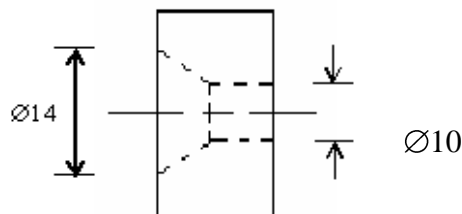

Figure 2
4. Figure 2 shows a part of template in fitting work.